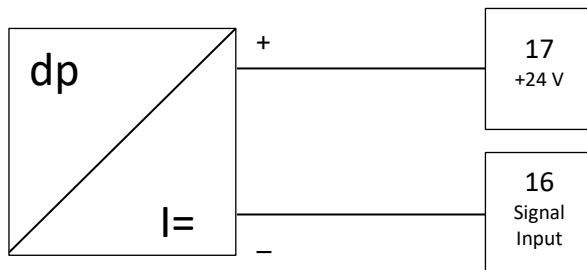

Figure 14: Connection of a passive transmitter
**Passive transmitters** are connected with their plus terminal to the +24 V supply output of the respective analog input. The minus terminal is connected to the respective signal input. The Figure 14 shows an example of a differential pressure transmitter at the 1st analog input.